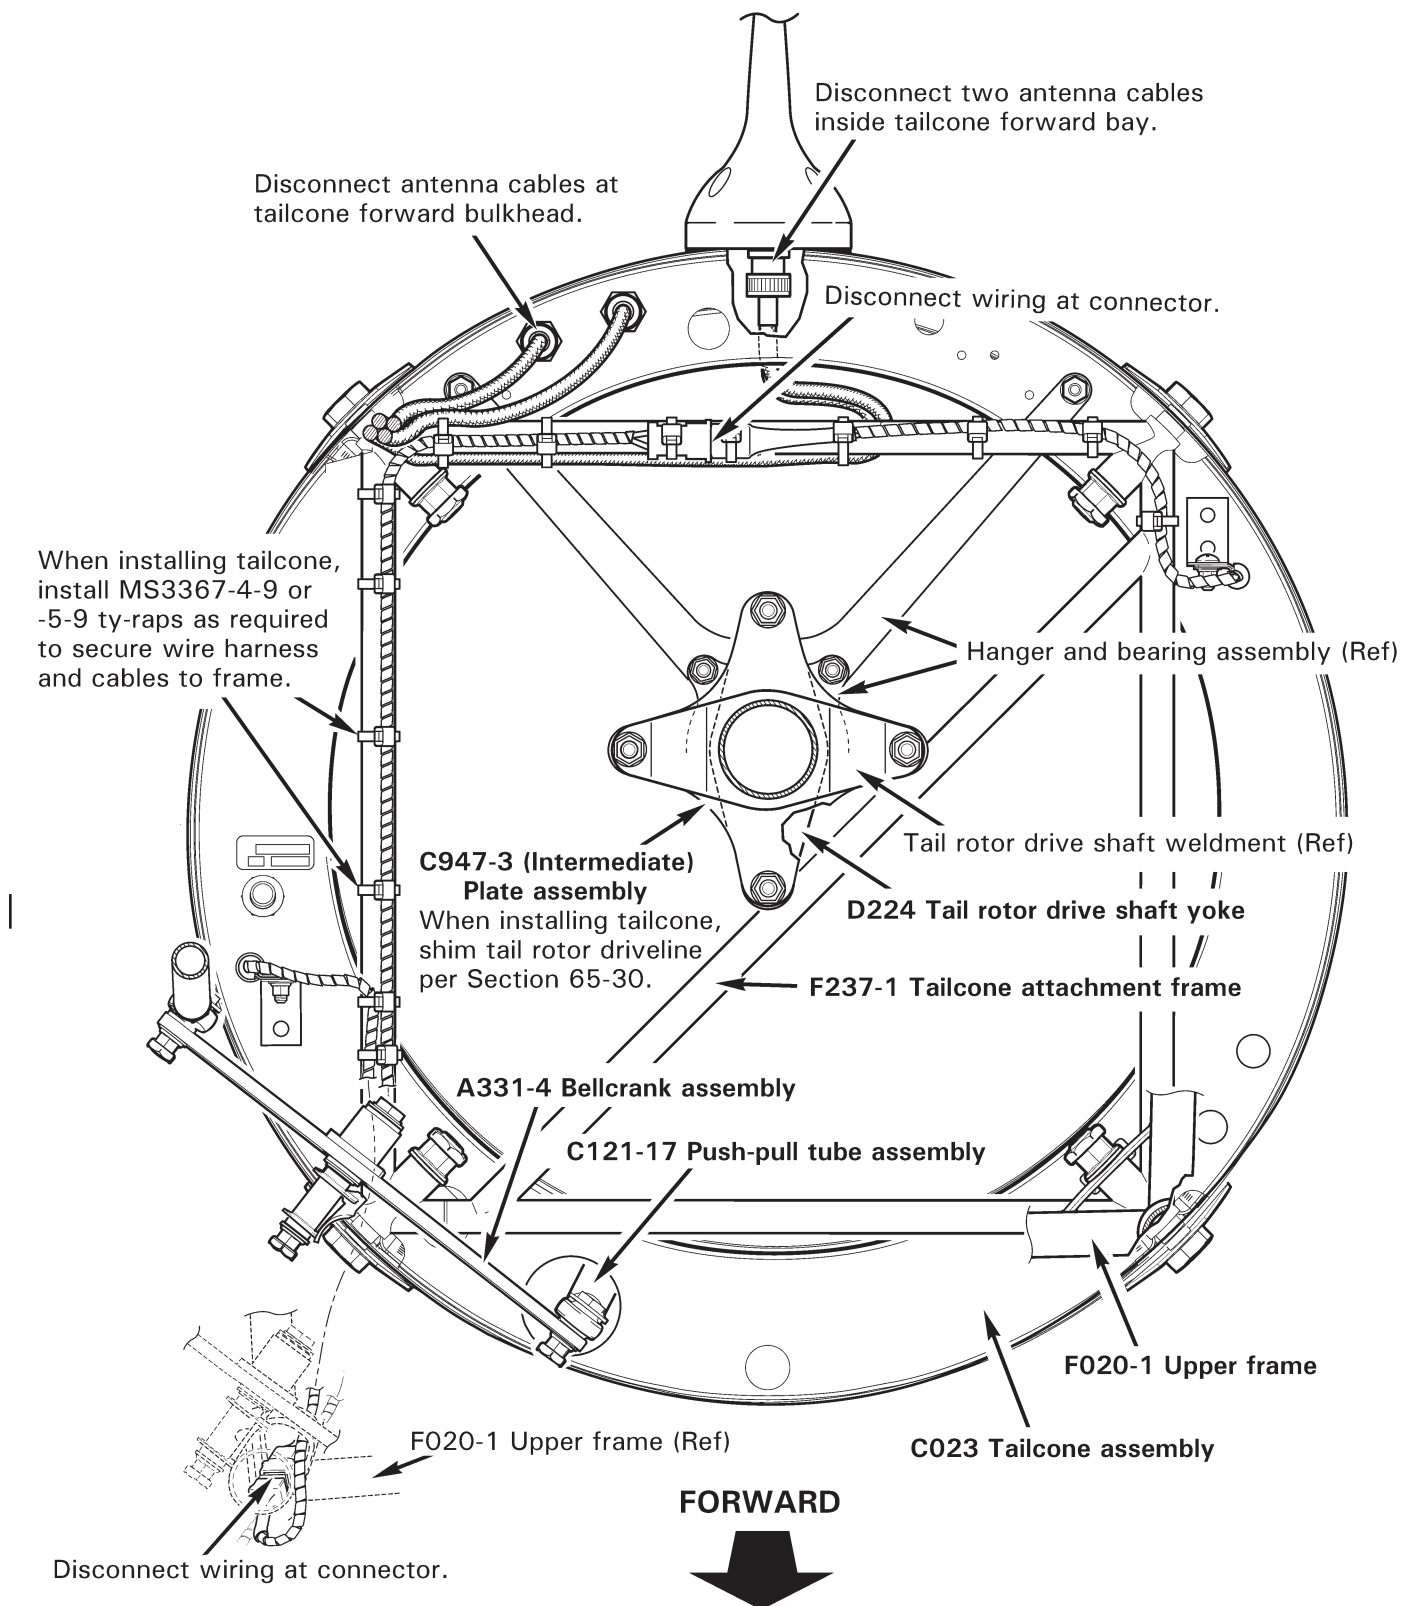

FIGURE 53-4 TAILCONE ASSEMBLY
2. Refer to Figure 53-4. Cut and discard ty-raps as required and disconnect tailcone wiring at connectors. Disconnect two antenna cables inside tailcone forward bay, and cables at forward bulkhead, as required.
1. Refer to Figure 53-4. Install F237-1 tailcone attachment frame, if not previously accomplished. Verify correct damper assembly orientation per Figure 65-3.